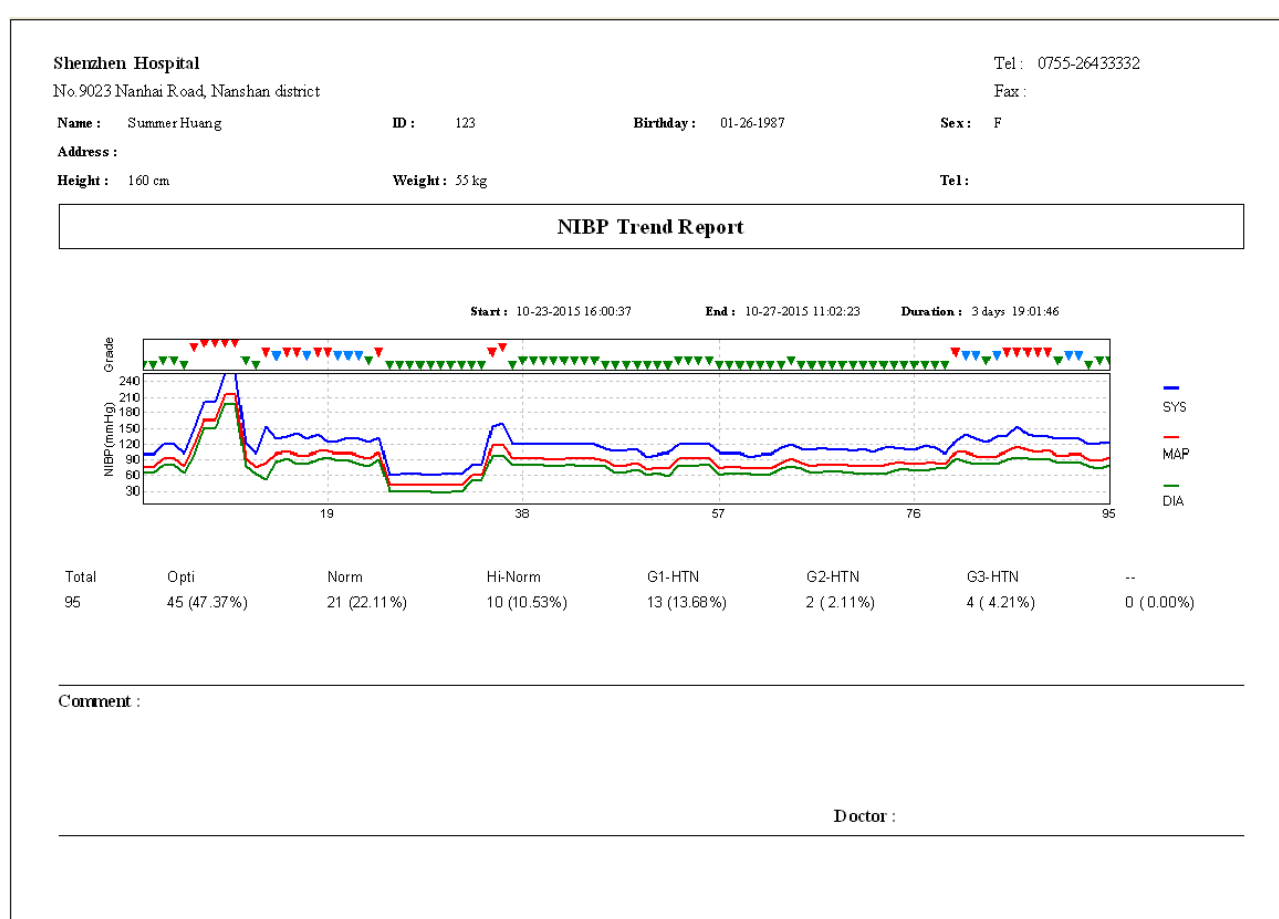

Figure 3.13 NIBP trend report
- **"Print"**: click it to print the NIBP trend report for the current displayed data, the NIBP trend report is as shown in figure 3.13.